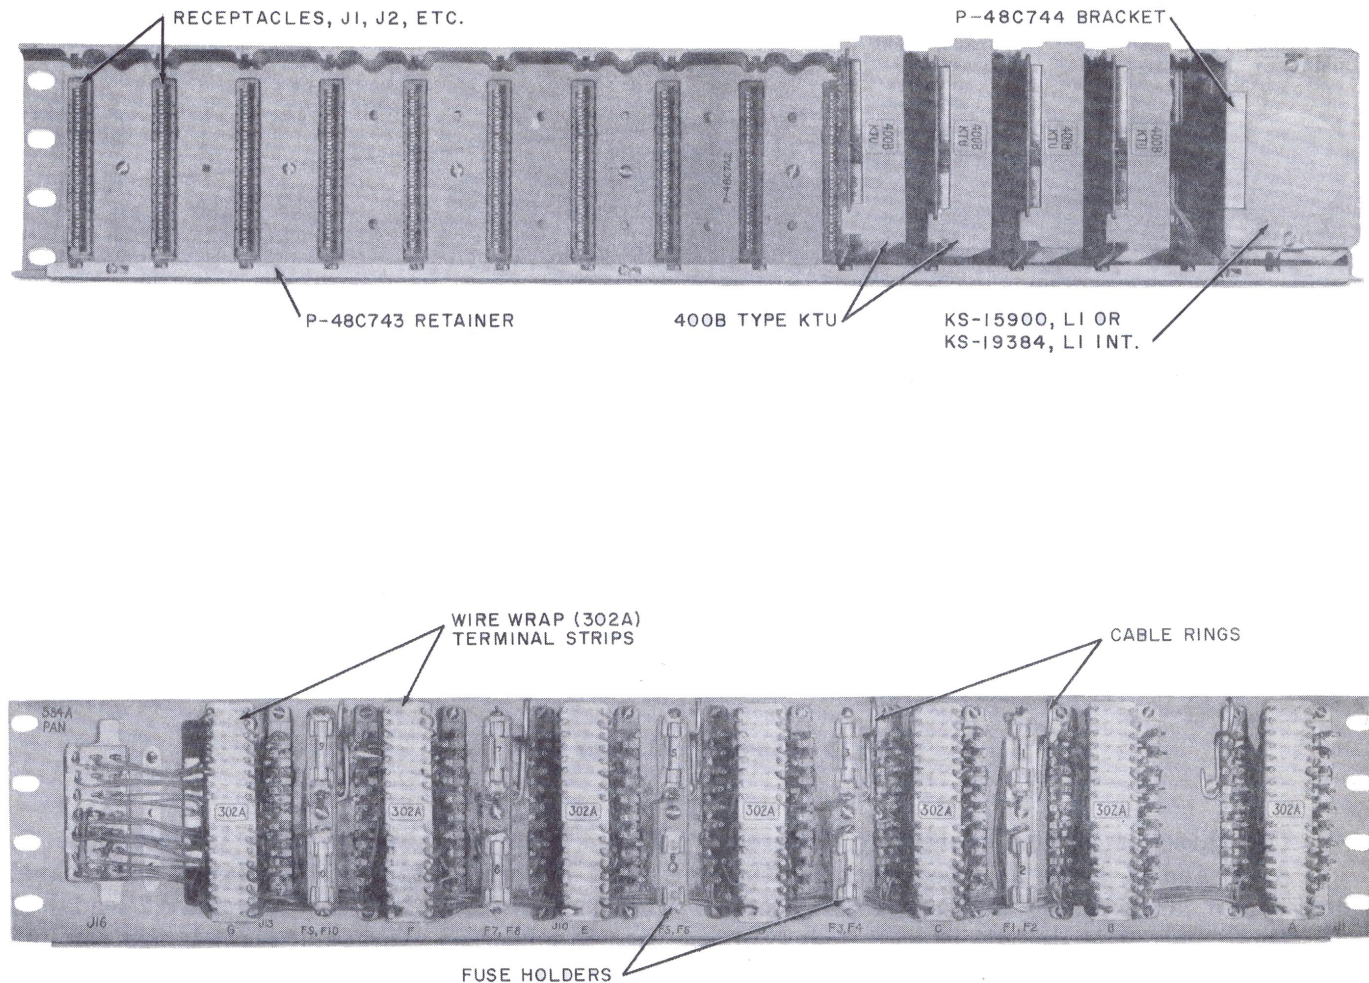

Fig. 2 — 584A Panel, Equipped With 400-Type KTUs
2.01 The 583A (Fig. 1) and 584A (Fig. 2) panels are equipped with small wire-wrap terminal strips. Station and feeder cables are con-
2.04 The 584A panel (Fig. 2) accepts thirteen 400-type or 401A plug-in KTUs and is equipped with a plug-in KS-15900, List 1 interrupter.